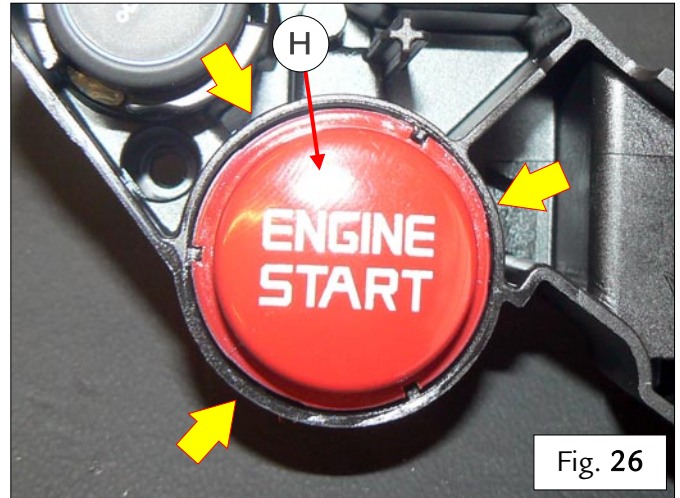

Fig. 26
- If necessary, apply a thin film of Vaseline around the outer circumference of the button (H) in contact with the relative seat, to facilitate insertion – Fig. 26.
- Fit the new 'ENGINE START' button (H) into the guides in the relative seat, rotated into the correct position shown in the photo aside, and ensure that the three tabs indicated fasten correctly – Fig. 26.